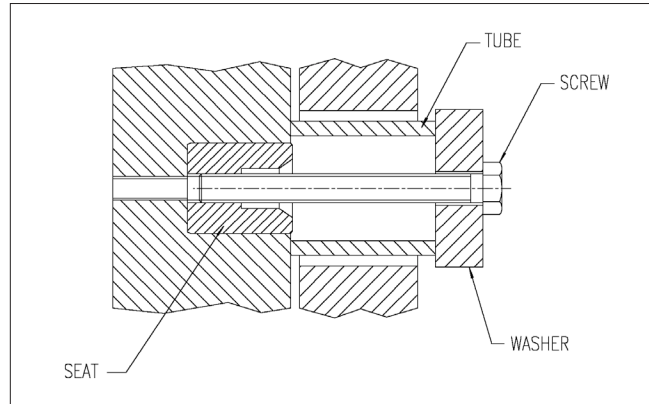

Figure 8 — Method of Removing Seat
- 11.2. Remove the screw from the centre of the seat. Remove the seat using an extractor screwed into the tapped hole in the centre of the seat (see table 5 for thread size). The force from the extractor should be reacted by the metal surrounding the seat, so that the torque limiter bearing is not loaded. A suitable arrangement is shown in fig. 8.